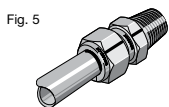

Fig. 5
1. Prior to disassembly, mark the tube at the back of the nut; mark a line along the nut and fitting body flats. *Fig. 5.*